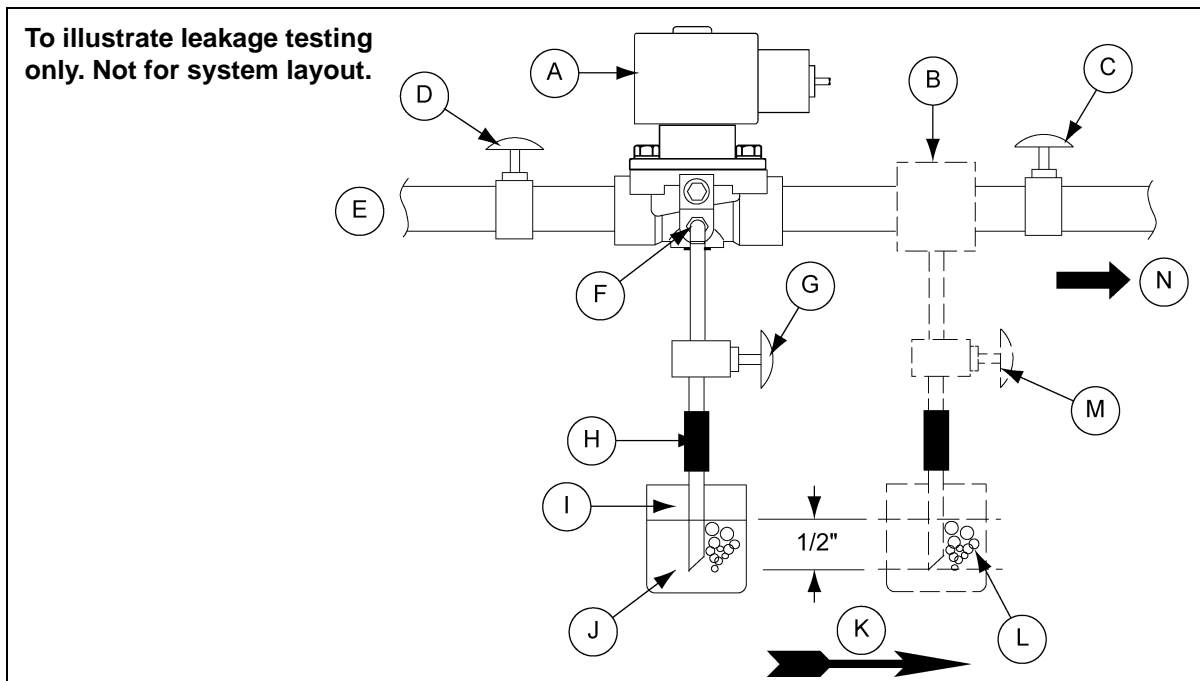

Figure 15A Testing for Internal Seat Leakage
2. Operate the safety shut off valve(s) through five (5) cycles. Listen carefully for the solenoid coil to click indicating proper operation.
4. Shut off the upstream manual shut off valve and de-energize the safety shut off valve (A). Remove the plug from the leak test tap (B) or downstream pressure tap (F) in the valve body. Connect leak test equipment with the test petcock (G) in the closed position. (See Figure 15A.)